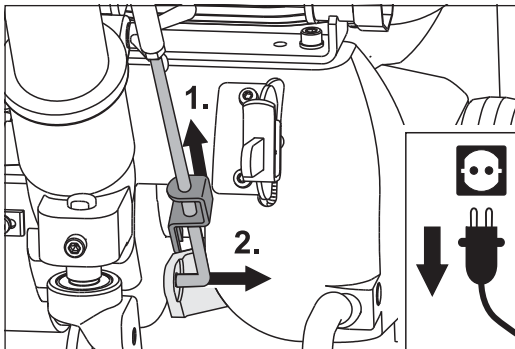
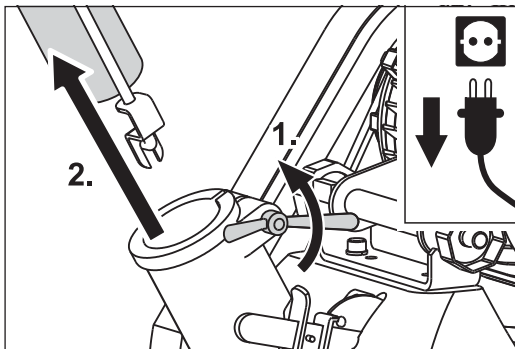

Fig. 24 Dismount the lower rod from the lifting fixture.
Fig. 25 Open the wing nut (1.) and pull the guide tube out of the machine housing (2.).
- 4 Dismount the lower rod from the lifting fixture (Fig. 24). Open the wing nut (Fig. 25, 1.) and pull the guide tube out of the machine housing (Fig. 25, 2.).